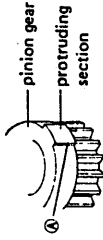

Fig. 4-2 Elimination of pinion gear protrusions
If there are rough areas of plastic protruding from the (A) section of the protruding section of the pinion gear, the return function may operate at a pitch of only 1mm. In this case, remove the plastic protrusions completely (Fig. 4-2).